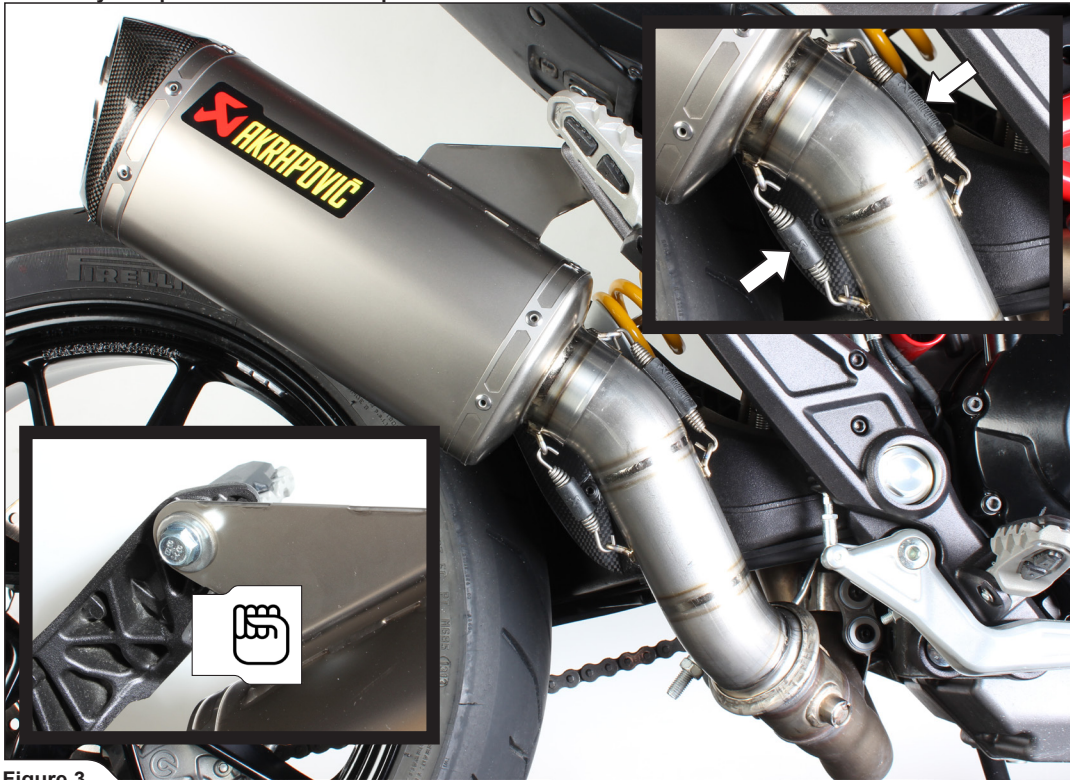

Figure 3
- Carefully slide the muffler onto the outlet side of the link pipe. Attach the springs and hand tighten the muffler's bracket, using bolt and washer from Akrapovič installation kit (**Figure 3**).